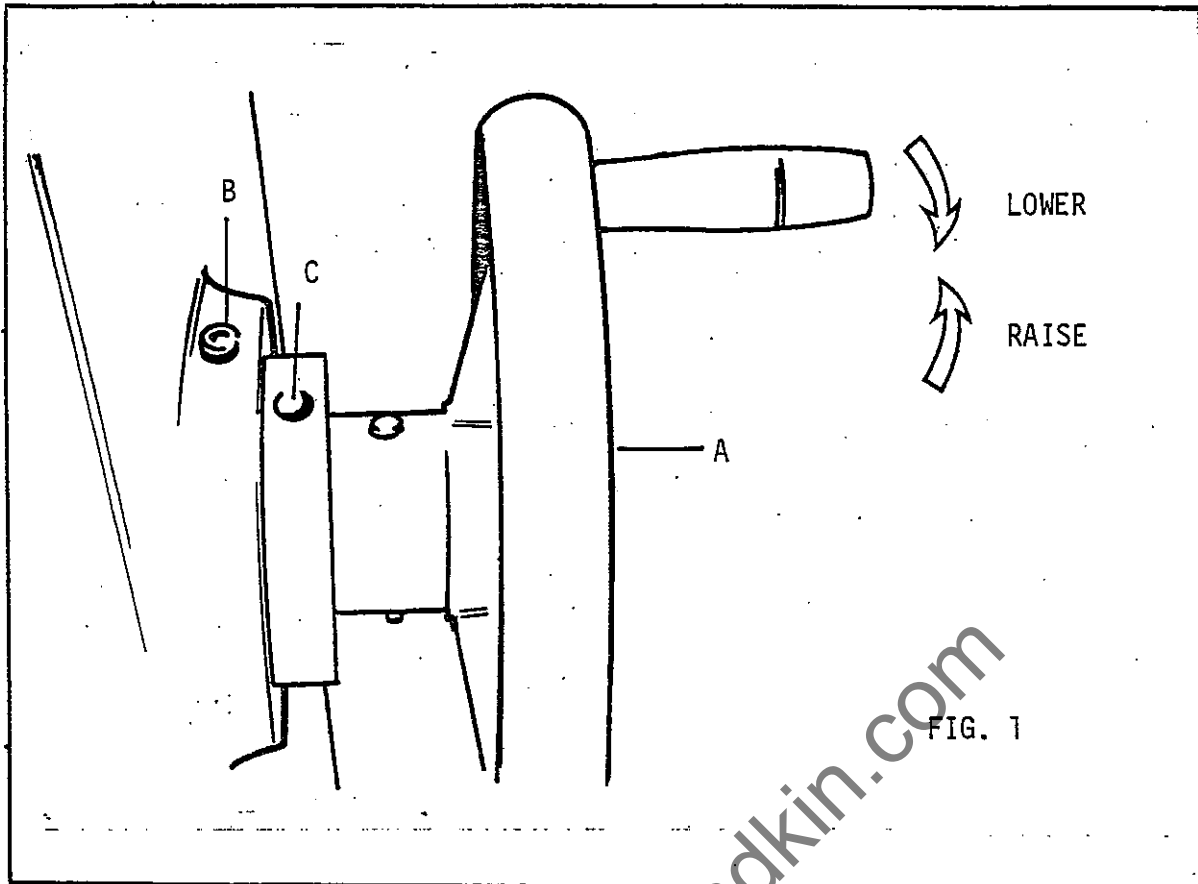

FIG. 1
The rise and fall motion of the work table is operated by the handwheel (A) positioned at the side of the idler pulley and support pillar (Fig. 1). The motion is transferred to the table carriers from the handwheel via the chain drive and gears.